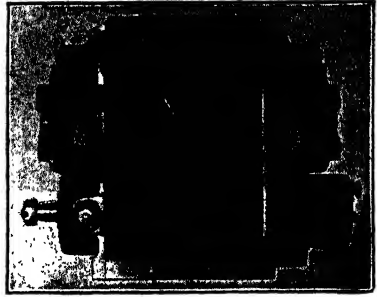

Fig. 85. Remy Two-Spark Magneto
**Double-Spark Ignition.** Mention has already been made of the employment of two sparks occurring simultaneously in the cylinders under the head of "Series Plugs". It will be evident that simply by adding another distributor to a magneto and taking leads from it to a second set of plugs placed at another point in the cylinders, preferably as far away from the first as possible, the same result is accomplished. Fig. 85 shows a Remy two-spark magneto, the distributors being mounted at opposite ends of the field.